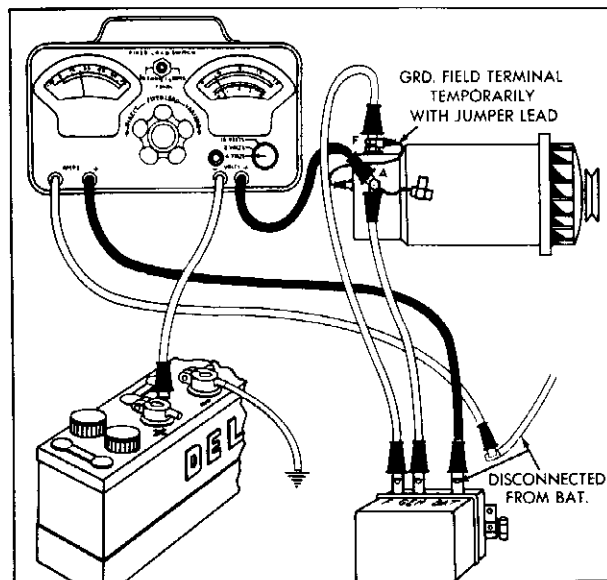

Fig. 11-12 Generator Circuit Resistance Test—Insulated Side
3. Connect test leads as shown in Fig. 11-12.